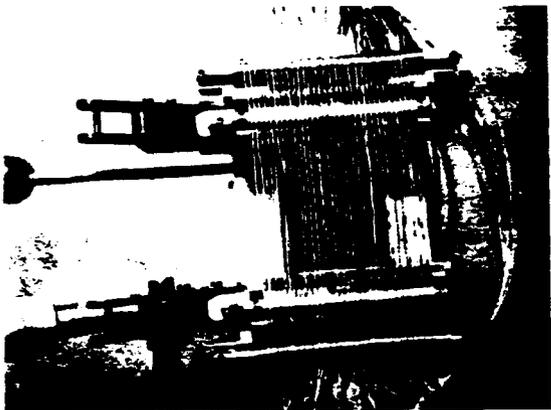

FIG. 23 FANNED T AND R WIRES
4.39 In correct sequence, continue fanning T and R wires in the bundle until all of the comb mandrel slots are filled in the 32 wire mandrel (fill the first 24 mandrel slots in the 25 wire mandrel; the last slot is empty). Verify the wiring for correct location in slots, only one wire in a slot, no T & R crosses, no empty slots in the 32 wire mandrel (the last slot in the 25 wire mandrel is empty). See Fig. 23. Dress and center the wires so that there is an equal amount of wire on the outside of each spring.